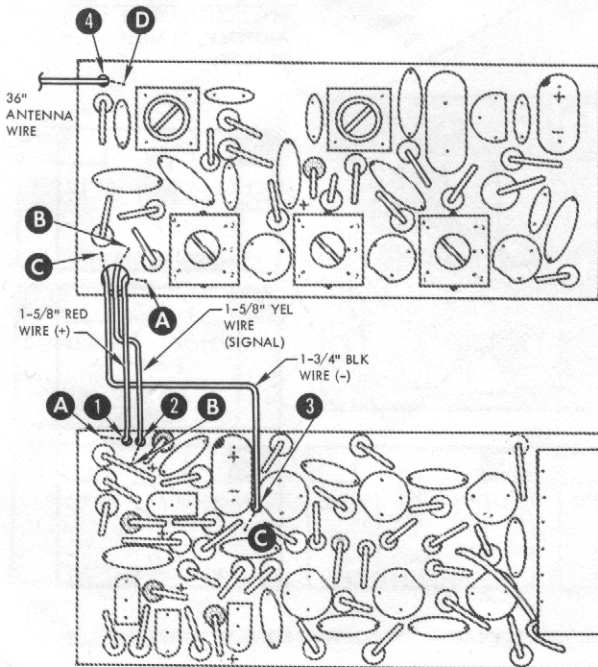
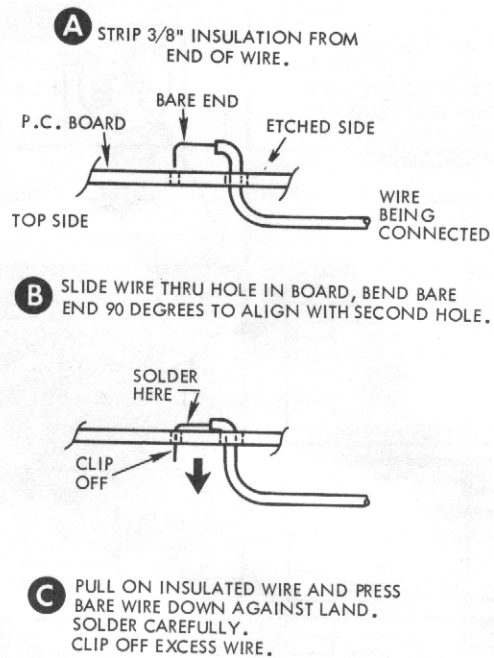

Figure 18. Wiring Boards
Figure 19. Method of Attaching Wires through Board
- 113. Slide end of red wire through hole ① in decoder board (see figure 18). Pass wire end back through hole ④, seat wire fully, then solder in place as shown in figure 19.
- 114. In like manner, connect yellow wire through hole ② to hole ⑤, and black wire through hole ③ to hole ⑥.
- 115. Pass all three wires through large hole in receiver board from top side. Using method shown in figure 19, solder red wire to ④, yellow wire to ⑤, and black wire to ⑥ on receiver board.
36" antenna wire. Install wire through hole ④ on end of receiver board, and solder to hole ⑤ as in figure 19.